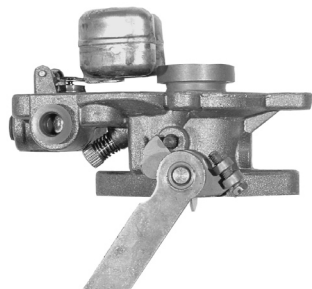

Fig. 5
3. Install the needle valve and float assembly. With the upper housing held upside down, make sure that the float assembly is parallel with the underside of the housing. See Fig 5.